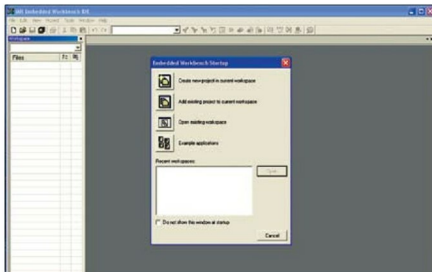

Fig. 11: Screenshot of 'Create New Project' in IAR Embedded Workbench
4. Select 'Create New Project' option from 'Project' menu (refer Fig. 11).